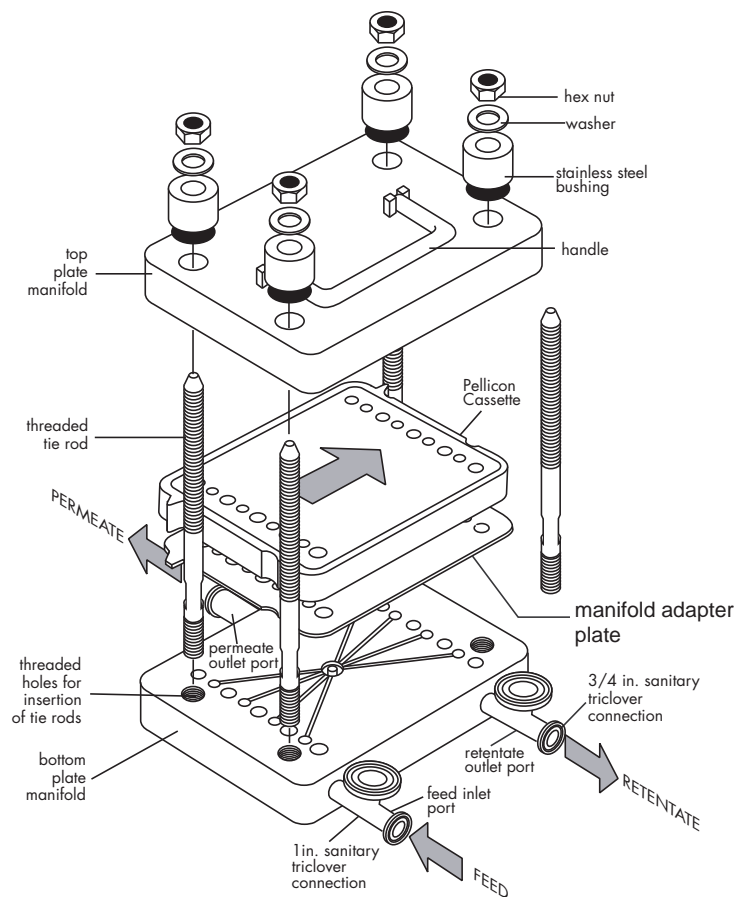
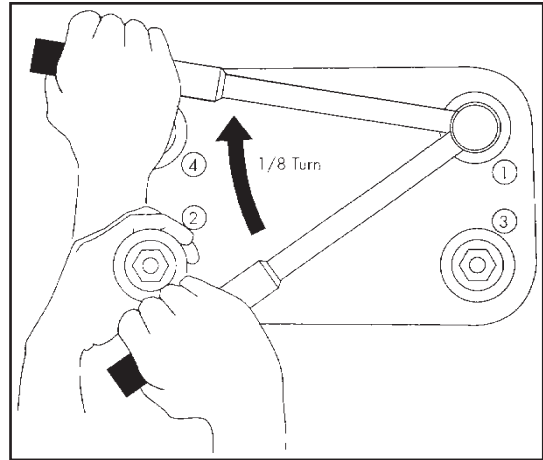

Figure 5: Exploded View of Stainless Steel Pellicon Cassette Filter Holder.
Figure 4: Pellicon Holder Tightening Sequence
6. Replace the spacers, washers and nuts as shown in Figure 5. Hand-tighten the nuts in a diagonal fashion (see Figure 4). Use a few drops of suitable lubricant on the tie-rods and between the nuts and the washers if required.
9. Using the torque wrench and 15/16 in. deep hex socket, turn each nut 1/8 turn in the sequence shown in Figure 4. When the wrench clicks, this indicates that the set force has been reached. **DO NOT OVER TORQUE.** Evenness of torque is critical to system performance.